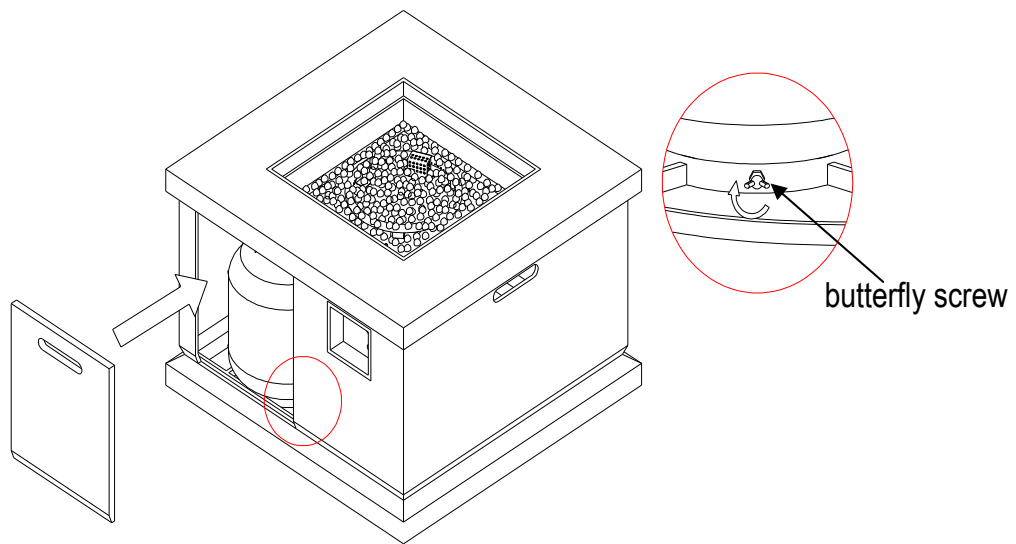

Figure 3
6. Secure the cylinder by tightening clockwise the butterfly screw found on the gas cylinder support, so that the cylinder cannot move from side to side or fall down, then close the door, see Figure 3.